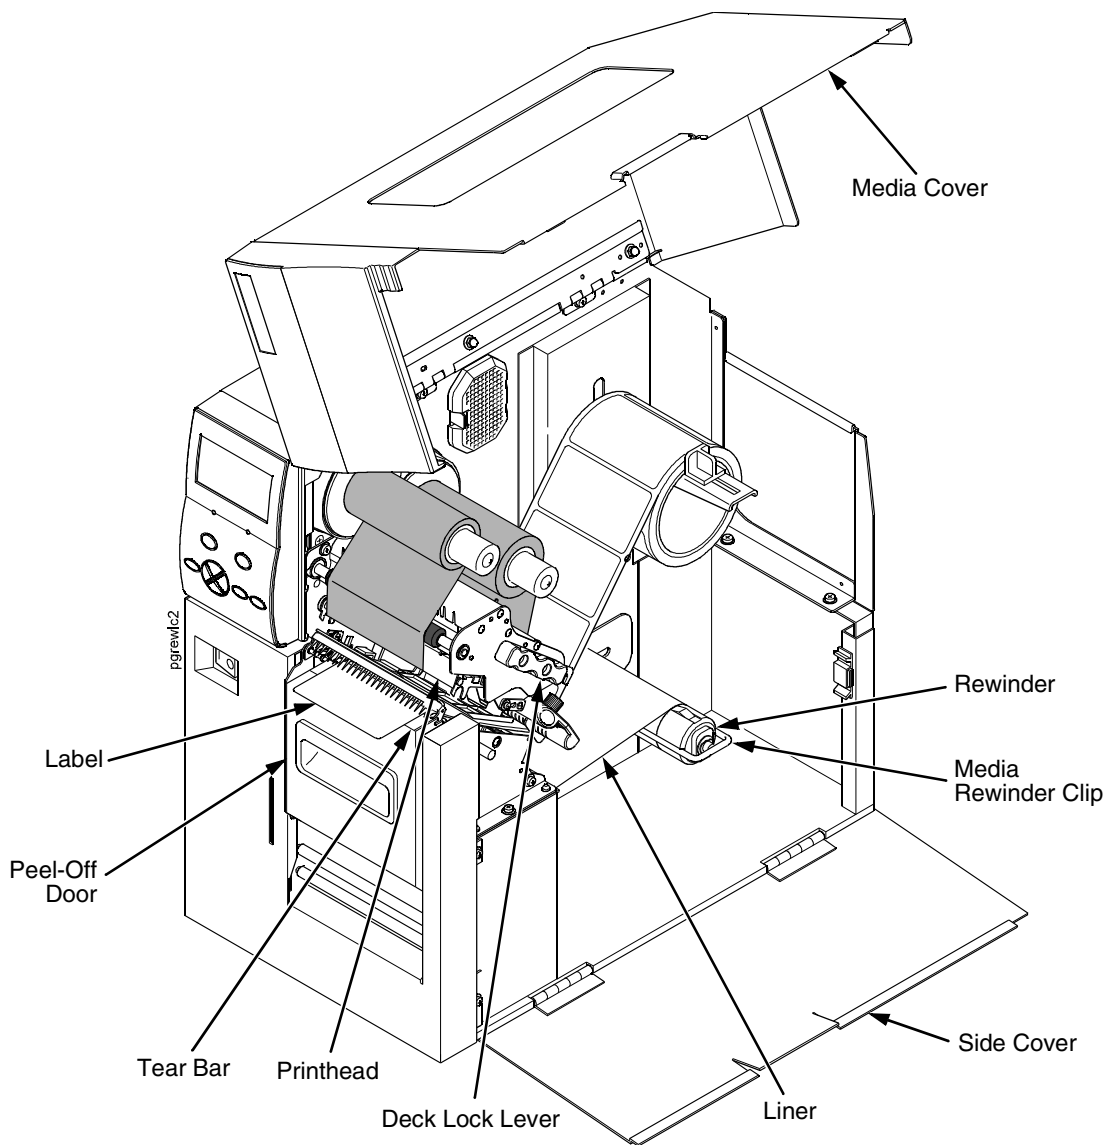

Figure 26. The Rewinder In Peel-Off Mode
17. Press the  (Feed) key. The label advances to the peel-off position, and "LABEL READY Remove Label" displays on the LCD. The liner remains on the rewriter. See Figure 26.